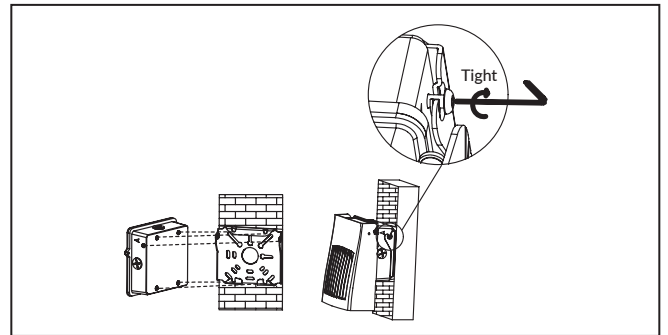

Figure 10.
11. Pull up and detach the fixture. Position it to the mounting plate using all the back top, bottom and side hanging screws into the appropriate hooks of the mounting plate (top to top, bottom to bottom, side to side). Secure the fixture by tightening the two side retaining screws. (Figure 10).